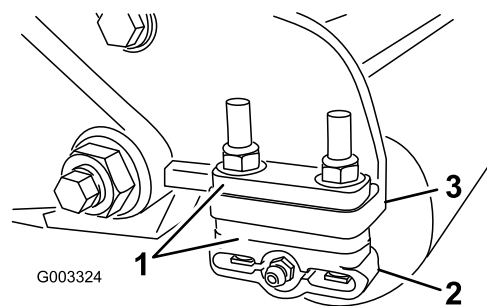

Figure 14
1. Adjust the rear roller brackets (Figure 14) to the desired height-of-cut range by positioning the required amount of spacers below the side-plate mounting flange (Figure 14) per the HOC Chart.